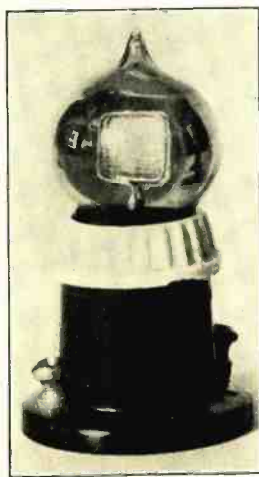

Fig. 2. A potassium hydride, neon filled cell, with both electrodes centrally disposed. (Courtesy of Samuel Wein).
On the right are illustrated the various electrode arrangements in the design of alkali metal cells; (A) central anode; (B) central cathode; (C) central electrode types. See Fig. 2 for the structure of (C).
mon, is also shown in the photograph (Fig. 2).